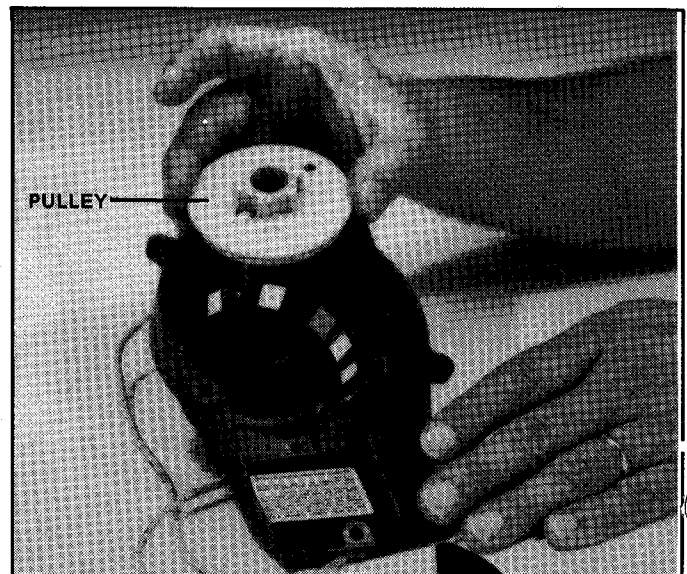

FIGURE 7.8
7.4 With the starter rope and pulley together and the rope through the guide hole of the starter housing apply a small amount of grease onto the top face of the recoil spring and onto the center shaft inside the starter housing. Turn the pulley so the six teeth are facing up and place the pulley down onto the housing shaft. If the hub of the pulley will not drop freely into the recoil spring use a small screw driver and while applying slight downward force on the pulley reach through the side louvers of the housing and under the pulley. Pull the inside coils of the spring from under the pulley hub. See Figure 7.8.